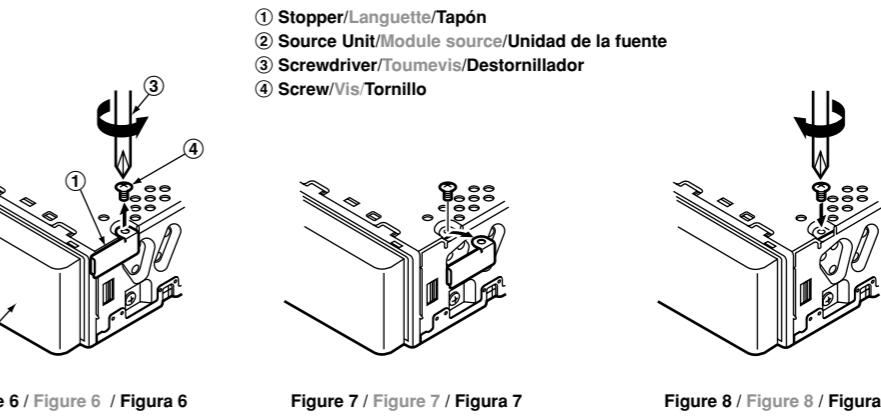

Figure 6 / Figure 6 / Figura 6
- Remove the screw from the source unit (Figure 6).
- Retirer la vis du module source (Figure 6).